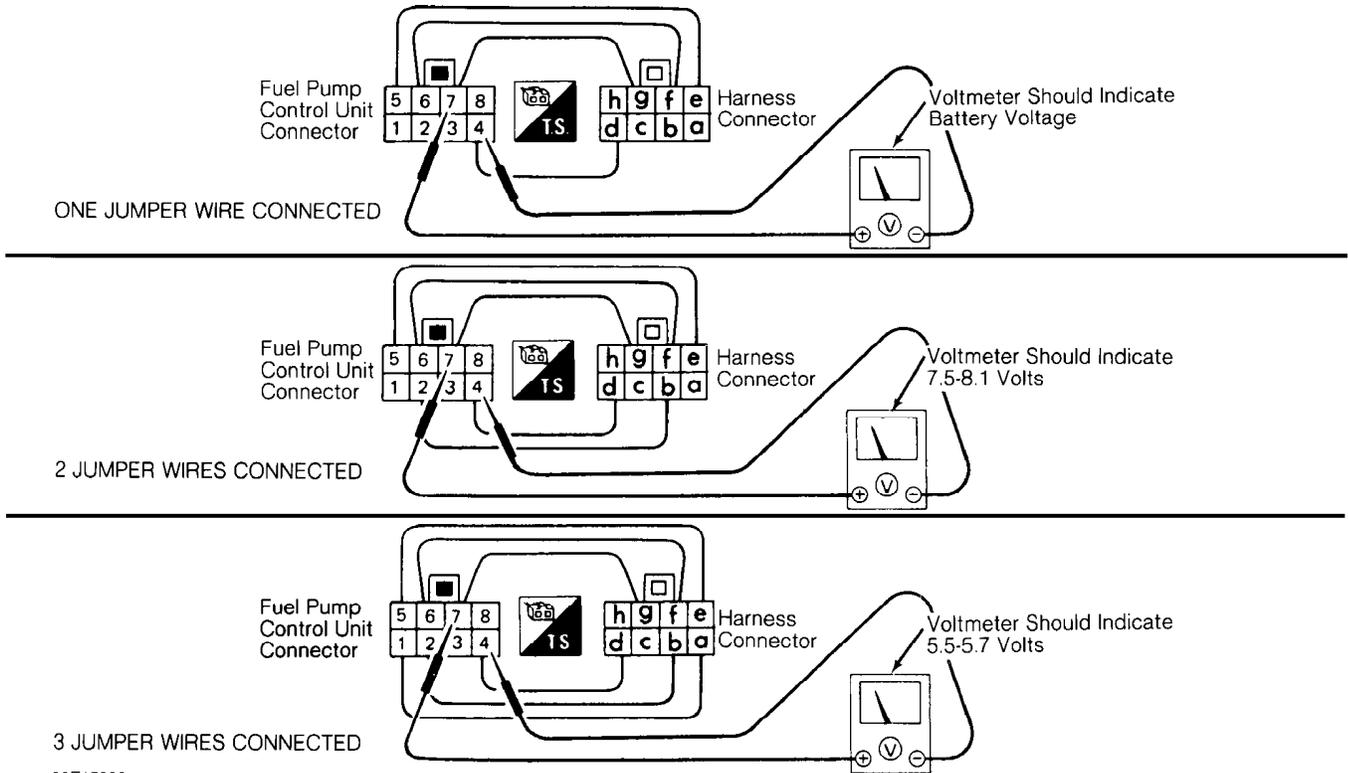

Fig. 12: Testing Fuel Pump Control Unit (Q45)
1) Disconnect fuel pump control unit connector, located above fuel tank at rear of vehicle. Install 3 jumper wires from unit side of harness, terminals No. 5, 6 and 7, to ECU side of harness, terminals "e", "f" and "g" respectively. See Fig. 12.
2) Connect one, then 2 and finally 3 jumper wires as indicated in illustration. Using a DVOM, check voltage between terminals No. 4 and 7 as each jumper wire is connected. See Fig. 12. If voltage readings are not as indicated, replace fuel pump control unit.